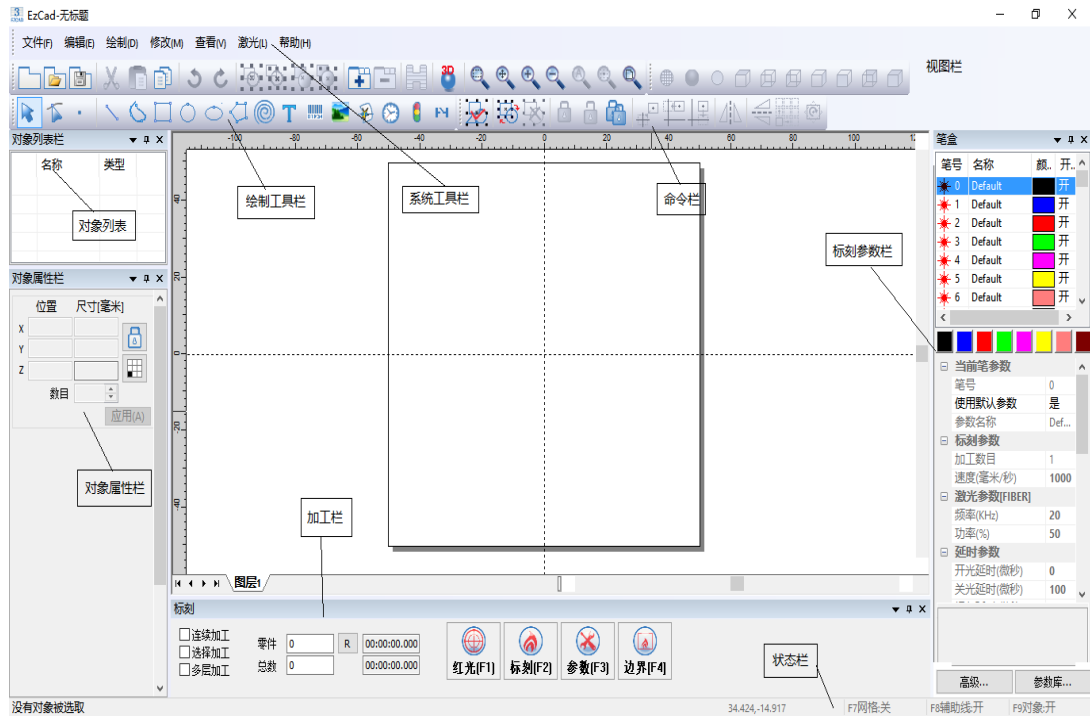

Figure 1.2 Software main interface
**Main interface:** The main interface after the program is initialized is shown in Figure 1.2.